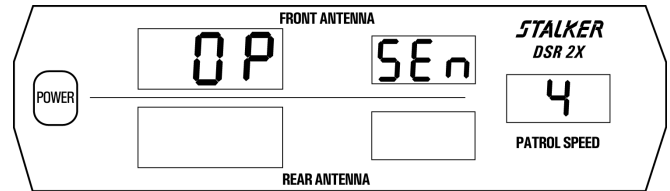

Fig. 3
The Opposite Lane sensitivity of **STALKER DSR 2X** is adjusted by pressing the remote control **MENU** key twice. The **↑** and **↓** keys then cycle through the five (5) sensitivity levels: **SEN 0**, **SEN 1**, **SEN 2**, **SEN 3**, and **SEN 4** (Fig. 3 shows sensitivity level 4, the factory default setting). In each case, the right-hand display refers to the current sensitivity setting. Sensitivity varies from **SEN 0** (0 range) to **SEN 4** (maximum range). **The sensitivity must be set for same lane mode and opposite lane mode separately.** Press any of the four Target Zone Keys to exit Setup Mode.